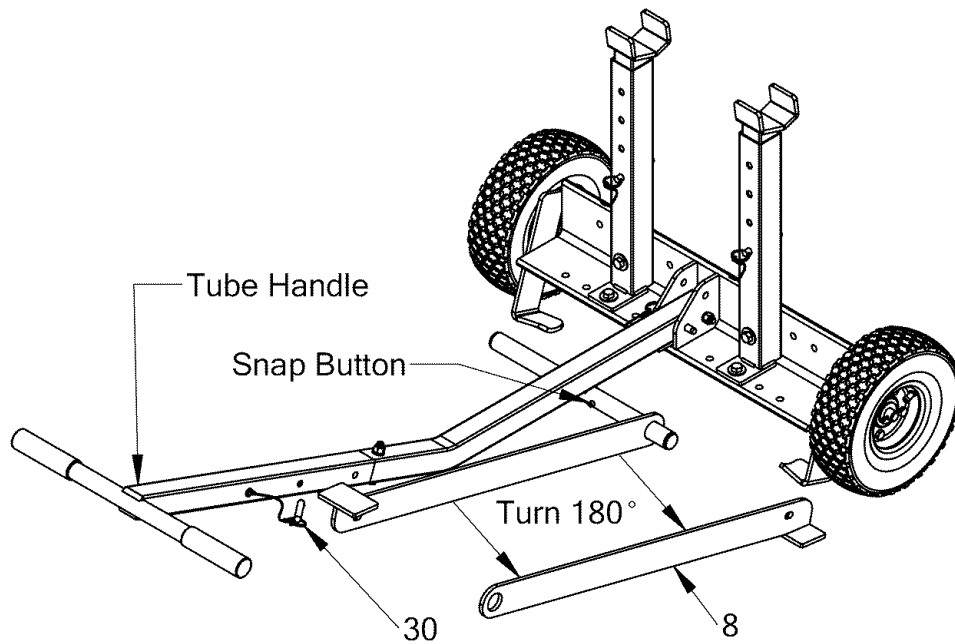

Figure 1
- Remove ring grip pin (30) from tube handle. Press snap button and slide stabilizer bar (8) from foot bar tube.
- Turn stabilizer bar 180 degrees as shown at bottom of Figure 1.